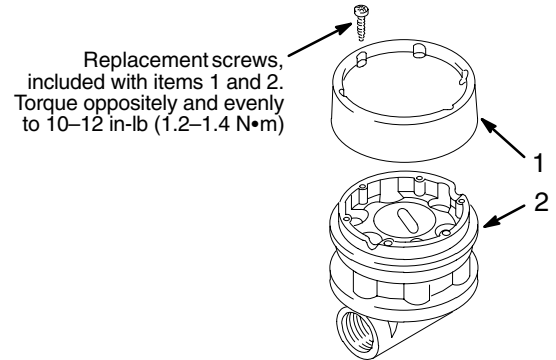

Fig. 5
4. Install a new pulse module (1). Align the notches on the underside of the pulse module with the cutaways in the top of the metering unit. Use the new screws and torque them oppositely and evenly to 10–12 in-lb (1.2–1.4 N•m). See Fig. 5.
4. Install a new metering unit (2). Align the notches on the underside of the pulse module with the cutaways in the top of the metering unit. Use the new screws and torque them oppositely and evenly to 10–12 in-lb (1.2–1.4 N•m). See Fig. 5.